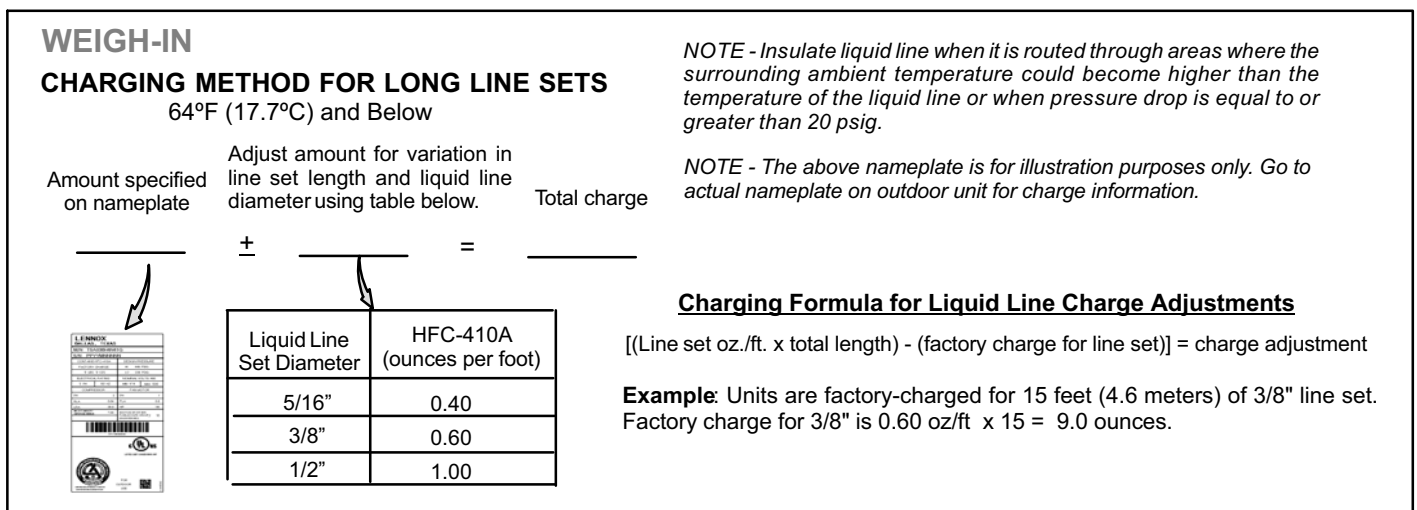

Figure 21. Using HFC-410A Weigh-In Method
5. Weigh in refrigerant using procedure outlined in figure 21.